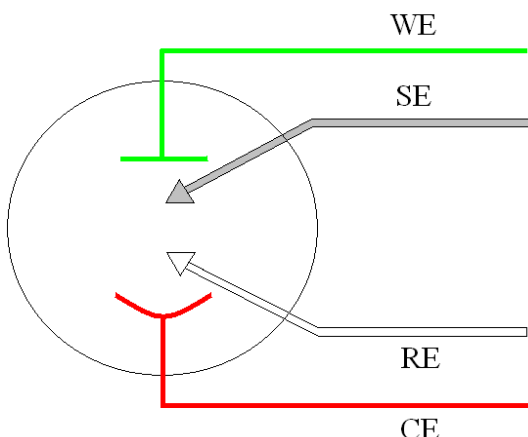

Figure 8. Four-Electrode Connection
c) There are some applications for which a four-terminal (Figure 8) connection is required. In this case, the sense electrode serves as a second reference electrode, useful for controlling the potential between the reference and sense (for instance, in controlling the potential across a membrane in a H-cell setup).